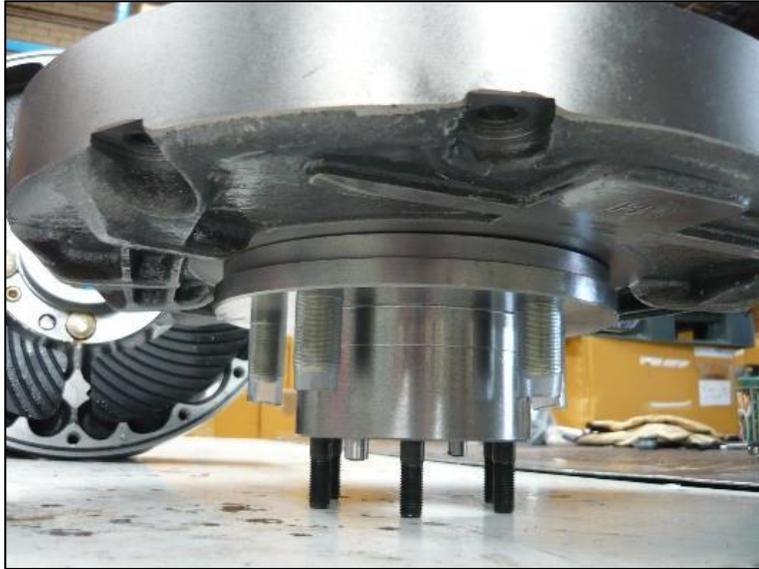

Figure 59: Outer housing, rotor and hub assembly.
9. Remove the outer races from the inner and outer bearings and using a suitably sized drift, push each of the outer races into position until they are seated on the lip. See Fig. 59 & Fig 59a